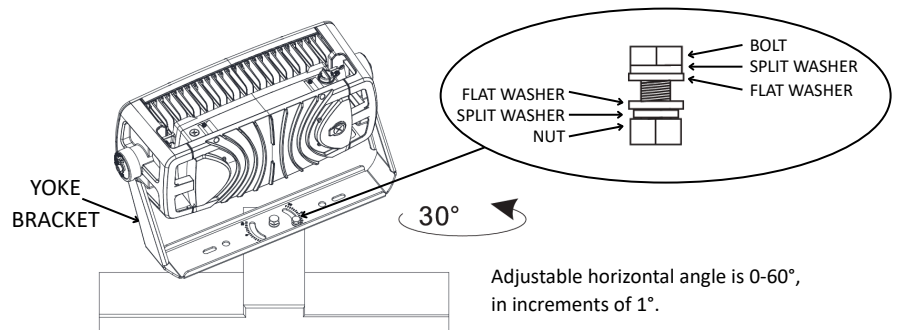
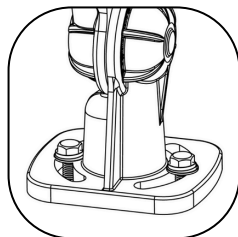
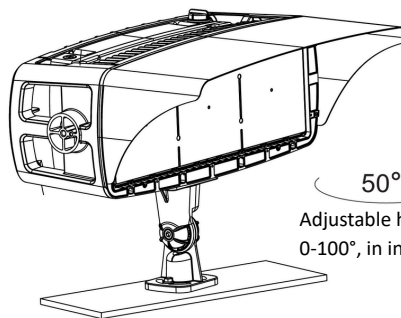

Fig. 2
Fig. 9
Fig. 10
2. Place two bolts with a split washer then a flat washer onto the yoke bracket through the mounting surface, and then if desired rotate the fixture up to 30° in each direction. Secure the bolts with a flat washer, split washer and then a nut, refer to Fig. 2.
2. Place two bolts with a split washer then a flat washer onto the yoke bracket through the mounting surface (Fig. 9), and then if desired rotate the fixture up to 50° in each direction (Fig. 10). Secure the bolts with a flat washer, split washer and then a nut. Refer to Fig. 2 for the bolt kit order.